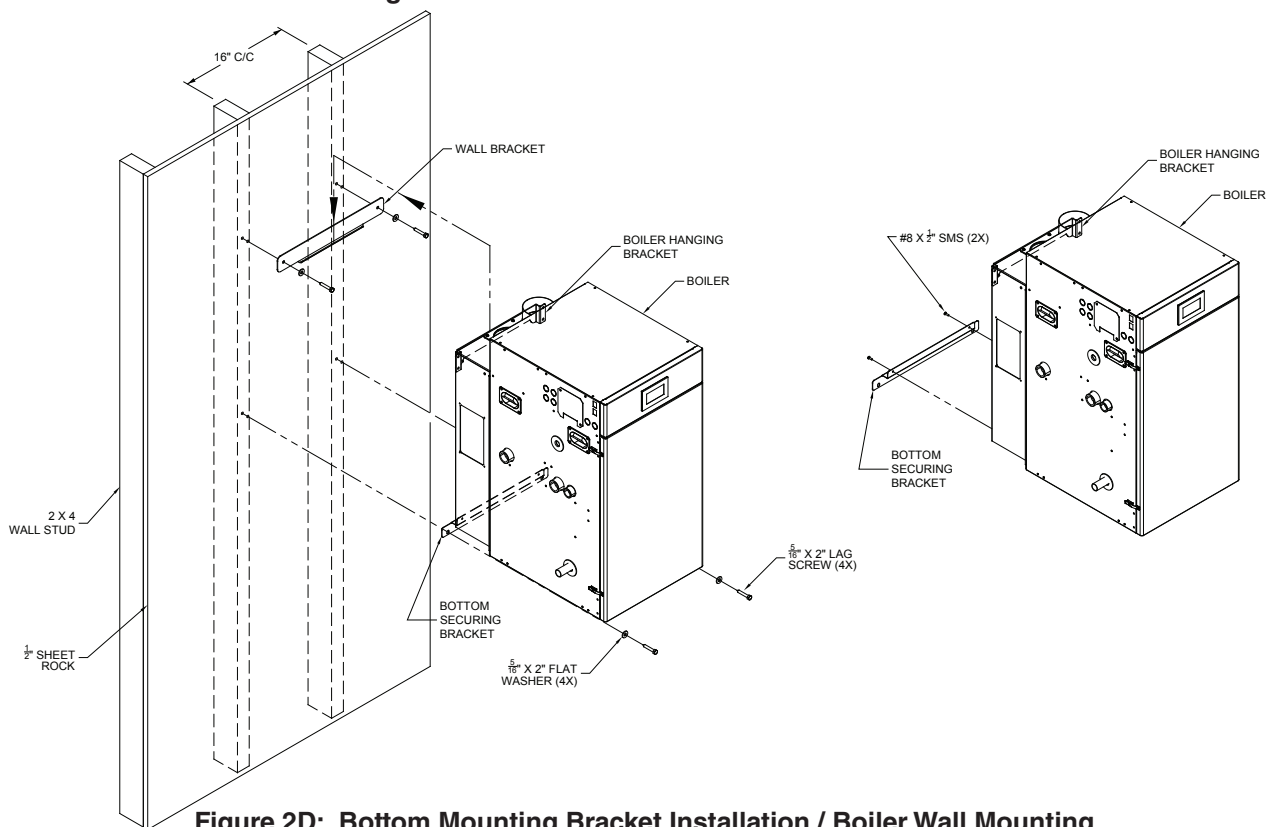

Figure 2D: Bottom Mounting Bracket Installation / Boiler Wall Mounting
- h. Attach the wall hanging bracket using the 5/16 in. x 2 in. lag screws and 5/16 in. plated washers, or other suitable anchors as appropriate (Figure 2D). Make sure the bracket is level.
- i. Attach Bottom Securing Bracket to boiler air box with two #8 x 1/2 in. Phillips round head sheet metal screws. Refer to Figure 2D for details.
- j. Hang the boiler on the installed wall bracket as shown in Figure 2D.
- k. If not already done in Step (4) locate and drill holes "C" and "D" using the ob-round slots in the Bottom Securing Bracket. Secure the Bracket to the wall using the 5/16 in. x 2 in. lag screws and 5/16 in. plated washers, or other fasteners as appropriate (Figure 2D).